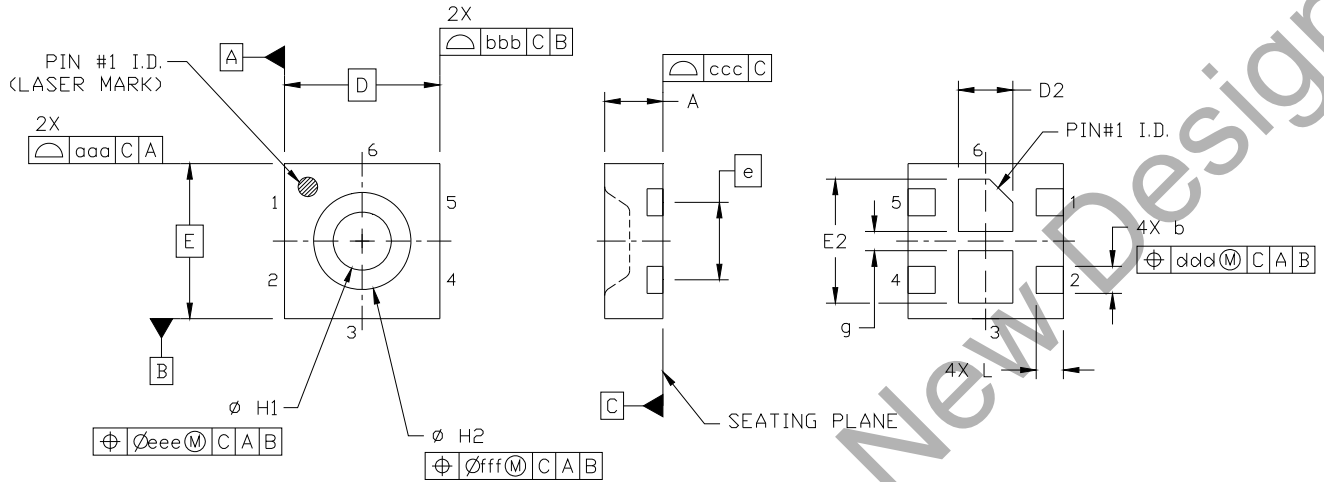
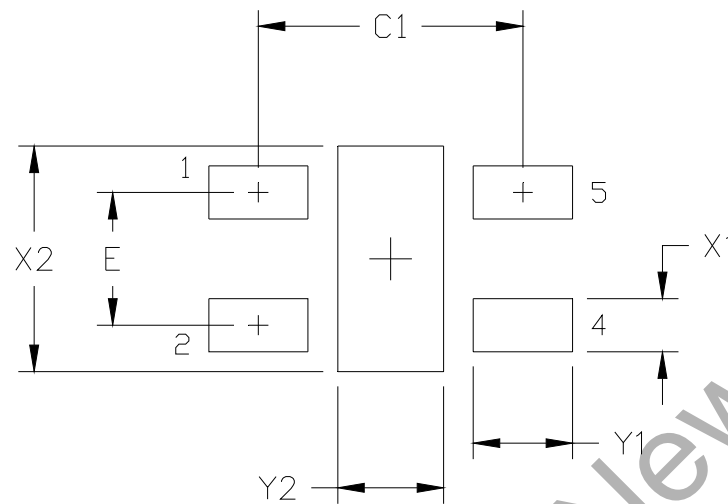

Figure 7. Si7034 Package Drawing
Figure 8. PCB Land Pattern Dimensions
Figure 7 illustrates the package details for the Si7034.
- Corrected pin numbering in Figure 7 and Figure 8.